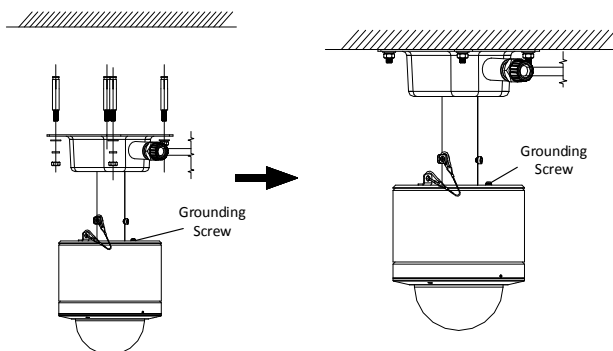

Figure 2-12 Mount the Bracket and Explosion-proof Dome
3. Fix the mounting bracket onto the wall by inserting the four expansion screws. Insert the flat washer and the spring washer. Then tighten the four screws to secure the installation plate as shown in Figure 2-12.